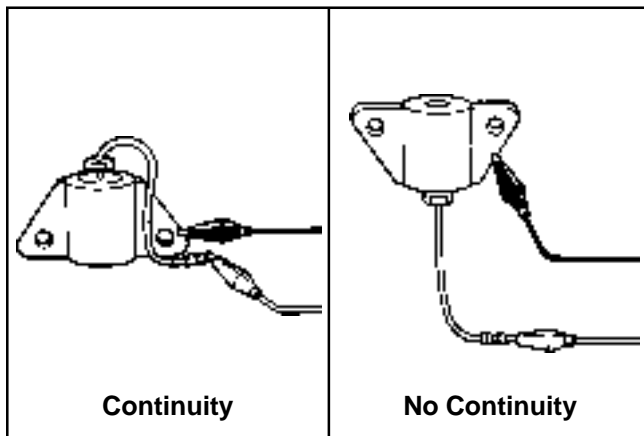

Figure 8-3.
5. Set an ohmmeter to the Rx1 scale and zero the meter. Connect one ohmmeter lead to the Oil Sentry™ float switch lead (black with gray sleeve) and touch the other lead to a bare spot on the crankcase (ground). Drain the oil from the crankcase and repeat the test.  a. If continuity was indicated with and without oil above, check if the insulation has been scraped off the float switch lead.  b. With the float switch removed, connect one ohmmeter lead to the float switch lead terminal and connect the other lead to mounting bracket. Test resistance with the switch in the normal position and inverted. Repeat test 2 or 3 times in each direction.	5. With the oil at the proper level, no continuity should have been indicated. After the oil was drained, continuity should have been indicated. If test results are other than specified, remove the closure plate from the engine and remove the float switch for further testing (5a and 5b).  a. If the lead wire is bare, allowing it to short, repair with electrical tape or replace float switch.  b. Switch continuity should be as indicated in Figure 8-3. If not, replace it.